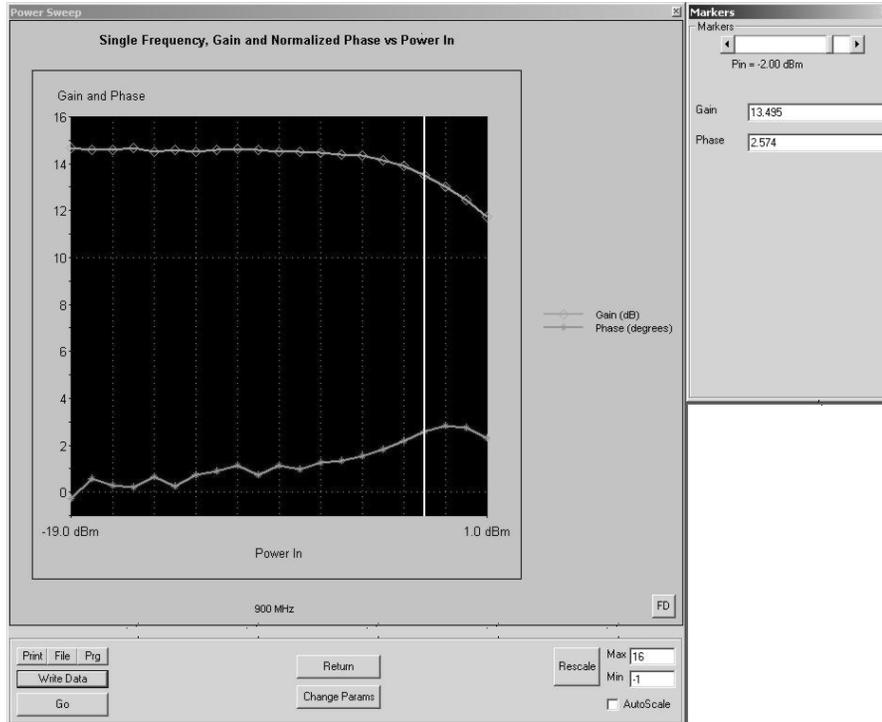

Figure 5-8. Single Frequency Power Sweep Test, Gain and Normalized Phase vs. Power In
- **Select Start Test:** Observe that the test screen (Figure 5-8) appears.